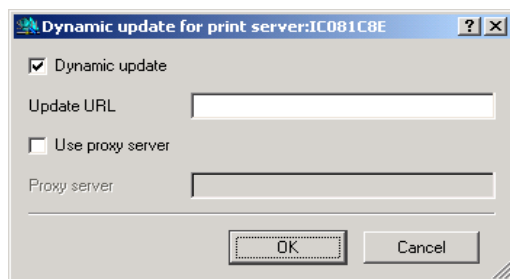

Fig. 10: InterCon-NetTool - Dynamic Update
3. Select **Actions – Firmware Update – Dynamic Update** from the menu bar. The **Dynamic update** dialog appears, see: figure 10 ⇨  76.